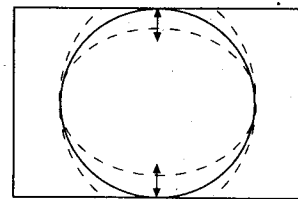

Fig. 4
- Adjust the vertical size to obtain overscan (fig. 4).